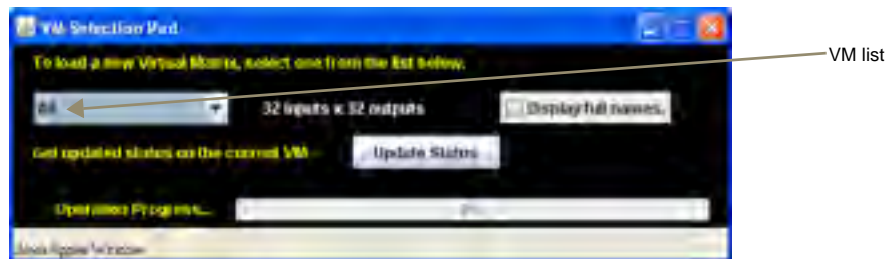

FIG. 79 VM Selection Pad
2. Click Update Status (FIG. 79).